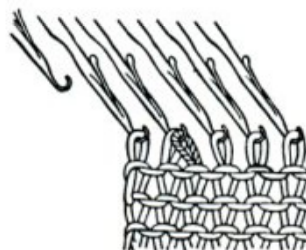

Fig. 65
- b. Using the two or three needle transfer tool, shift all stitches in until all needles "in action" have stitches on them, then place the outer empty needles out of action. (See Fig. 65)